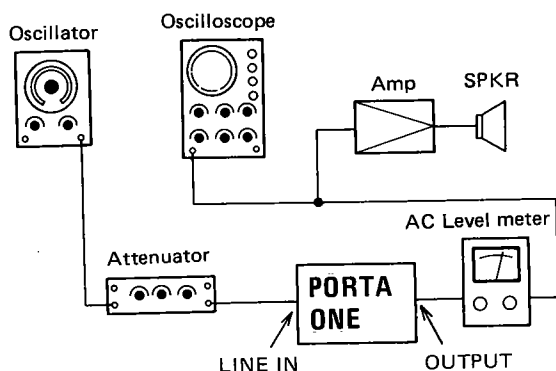

Fig. 10-3 Bias voltage measurement
1. Connect the test equipments as shown in Fig. 10-3.
1. Connect test equipments as shown in Fig. 10-3, and adjust each fader control on the front panel so that -10 dBV is obtained at the LINE OUT jack as mentioned in the item 9-1.
1. Connect the test equipments as shown in Fig. 10-3 and adjust each fader control knob so that -10 dBV is obtained at the LINE OUT jack as mentioned under the item 9-1.